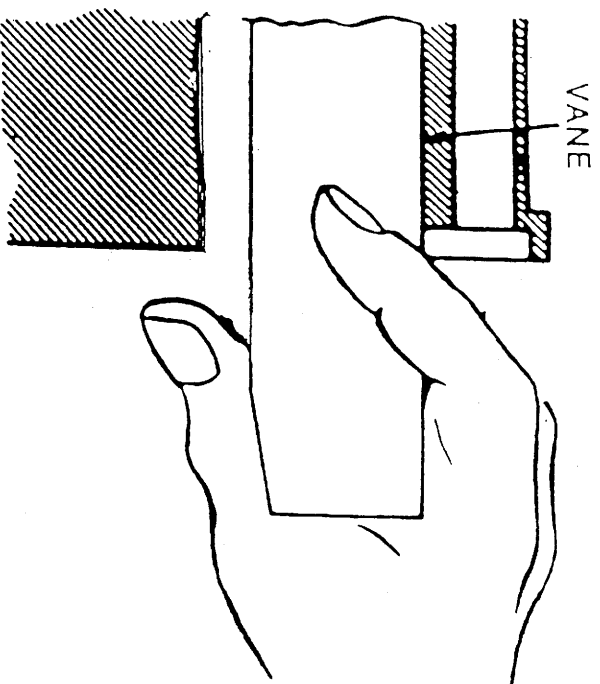

FIGURE 6. VANE INSTALLATION
6. Install new springs (#13) on new vanes (#12) and insert into the slots on the rotor assembly (#5). Be sure the springs (#13) are placed downward into the rotor slots. Refer to Figure 6. Make sure bearing assembly (#6) is packed with bearing grease.